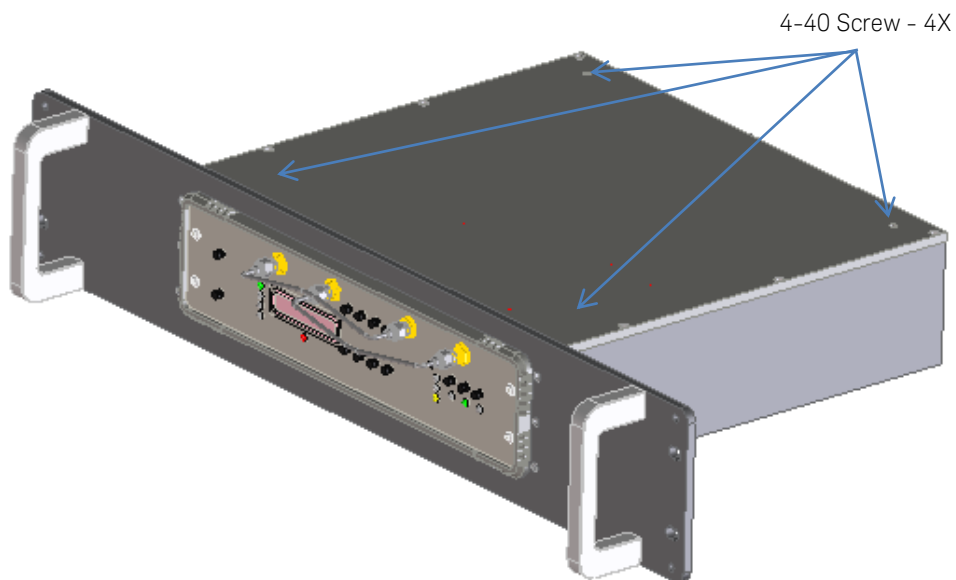

Figure 3: Secure instrument to rack mount kit
4. Looking down from over the assembly, position the rack mount kit until you can see the mounting holes for the instrument feet through the four holes in the bottom plate of the rack mount as shown in Figure 3 then secure with four screws.